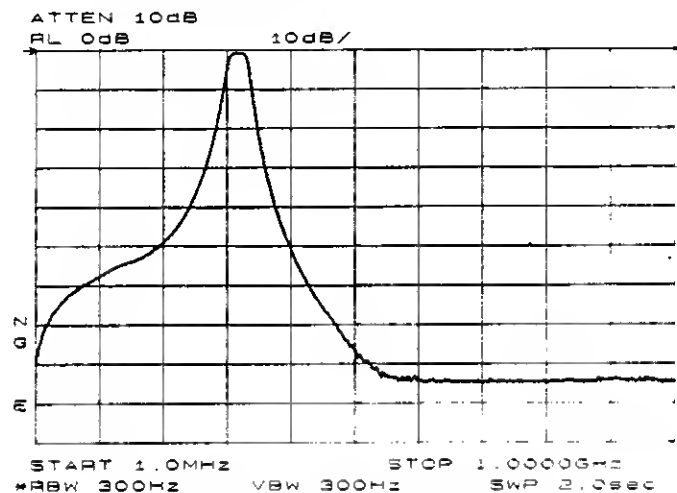

Figure 3-24. Normalized Trace
6. Normalization eliminates the frequency response error in the test-setup. When normalization is on, trace math is being performed on the active trace ($A - B + \text{NRP} \rightarrow A$), where A is the active trace, B is the stored thru calibration trace, and NRP is the normalized reference position. Note that the units of the reference level, dB, reflect this relative measurement. See Figure 3-24.